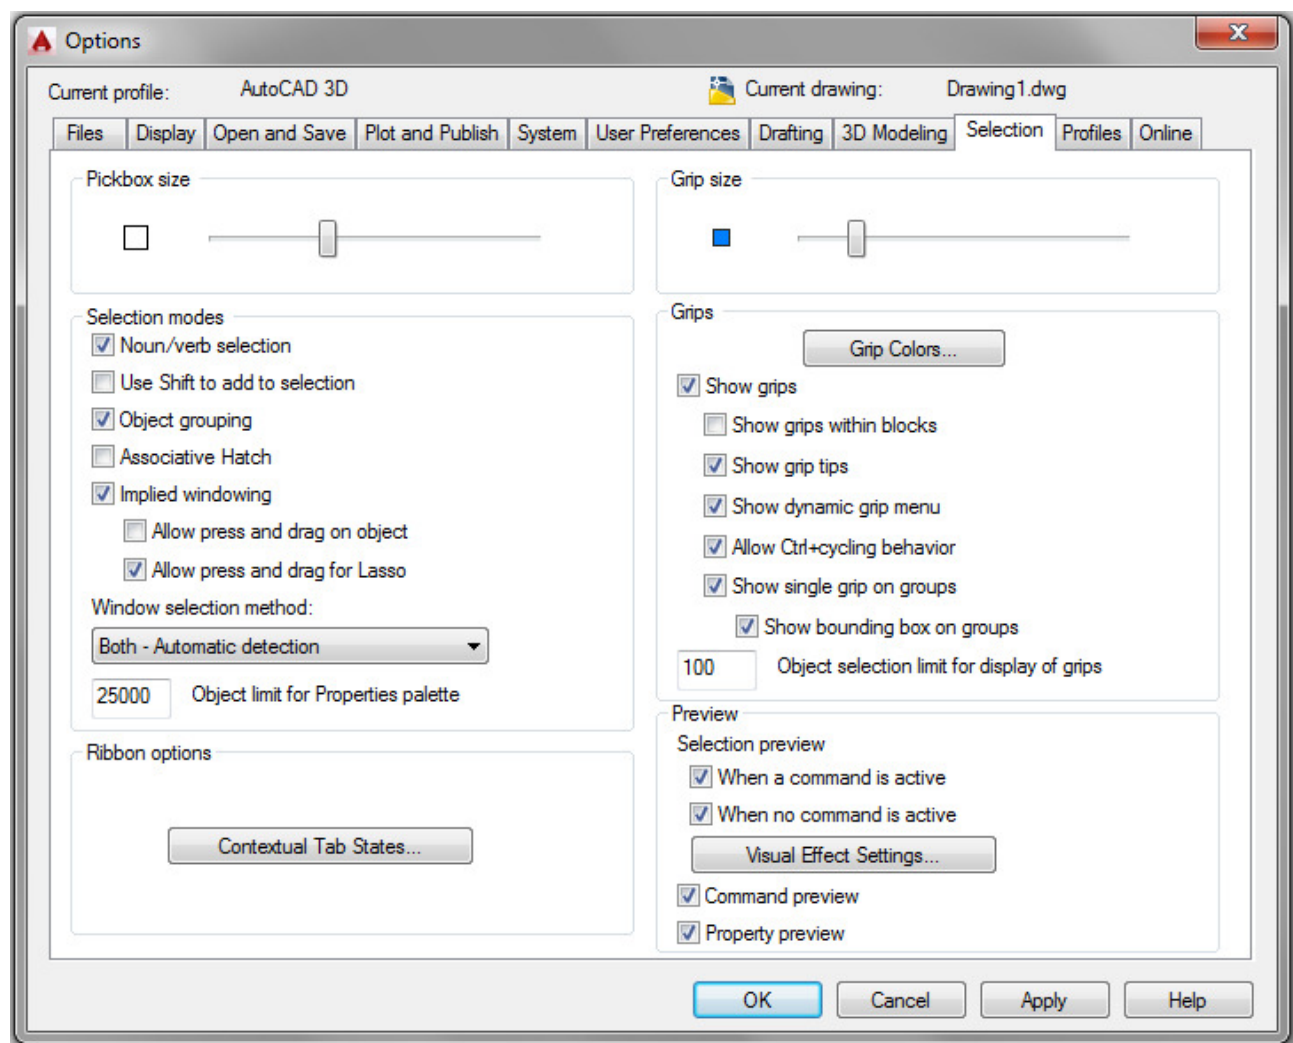

Figure Step 40
Step 40 Enable the Selection tab. (Figure Step 40)